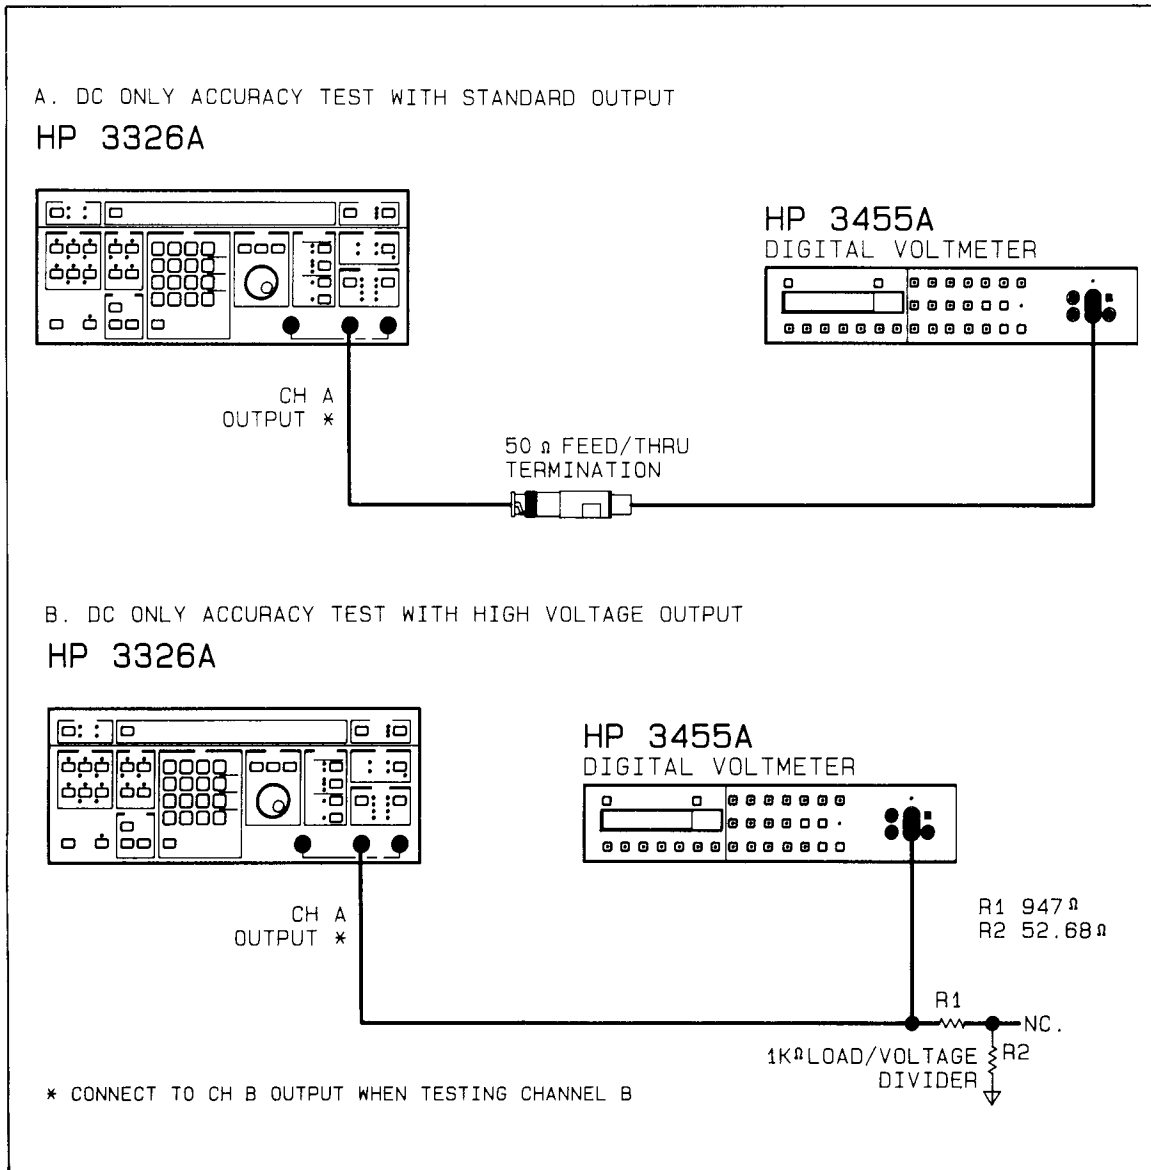

Figure 2-14. DC Only Accuracy Test
2. Connect the test equipment as follows (illustrated in Figure 2-14(A)):
2. Connect the test equipment as follows (illustrated in Figure 2-14(B)):